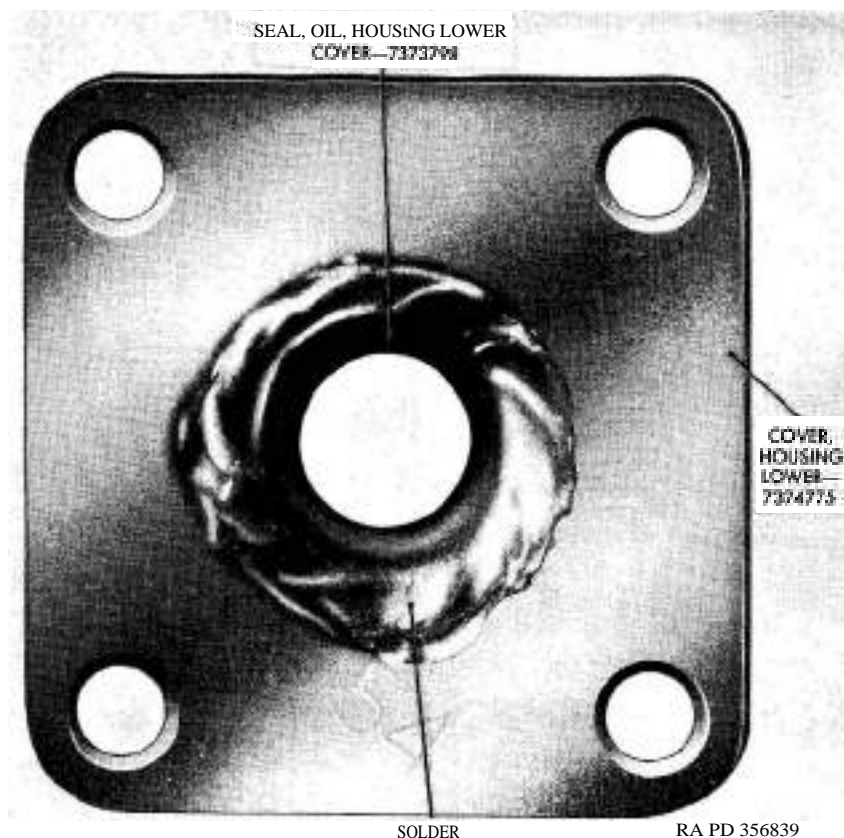

Figure 165. Housing lower cover and housing cover oil seal.
- (2) If a new oil seal is installed in a new housing lower cover, solder must be applied over the seal retainer and housing lower cover (fig. 165) to prevent lubricant leakage. Care must be exercised when applying solder because excessive heat will damage seal.
f. Install Housing Lower Cover Assembly. Position housing lower cover assembly (KK) against shims on steering gear housing and install housing lower cover screws (PP) . Tighten screws.